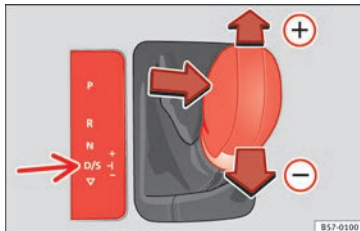

Fig. 183 Centre console: changing gear with tiptronic
- Move the selector lever forwards  to select a higher gear **» Fig. 183**.